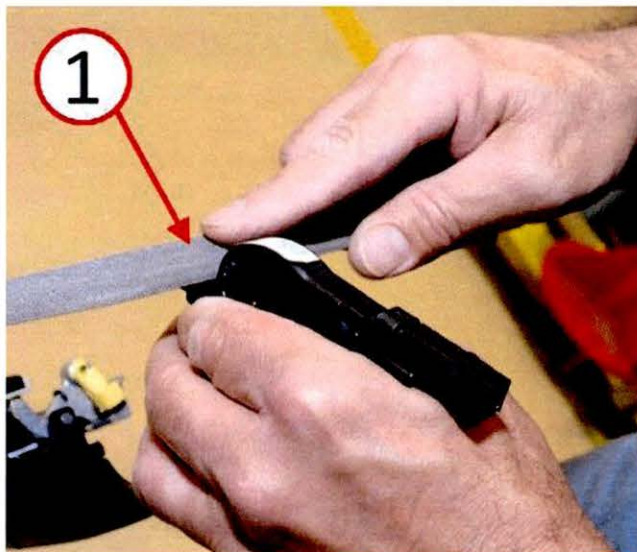

Fig. 3 Removing Burrs
3. Use file or equivalent to remove any burrs left by locating pins (Fig. 3).